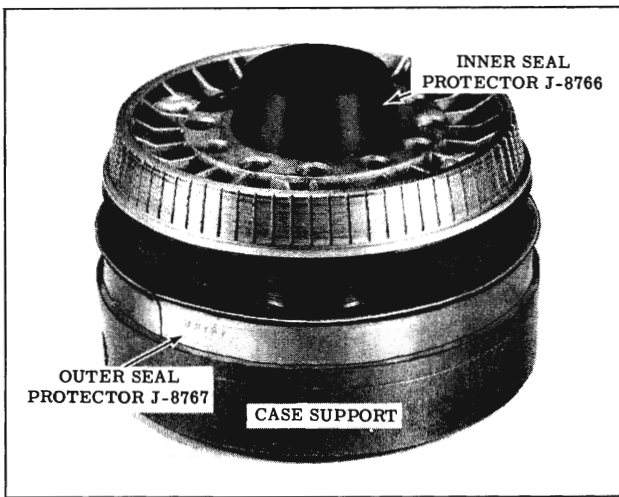

Fig. 3-63 Installing Reverse Piston
6. Install Inner Seal Protector Tool J-8766 over reverse piston hub and install Reverse Outer Seal Protector Tool J-8767 into case support. (Fig. 3-63)